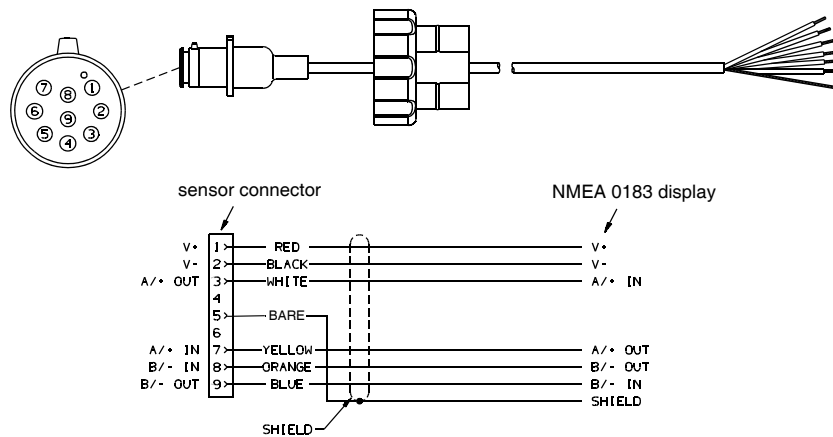

Figure 4. NMEA 0183 cable
- b. **No connector**—If your sensor cable does not have a connector on the display end, it must be hard wired. Refer to the owner's manual that came with your display and connect the colored wires as shown in the table below and Figure 4.
2. Strip 60 mm (2-1/2") of the outer jacket and foil shielding from the cut end of the cable (see Figure 4).
5. Connect the wires to the display (see Figure 4).